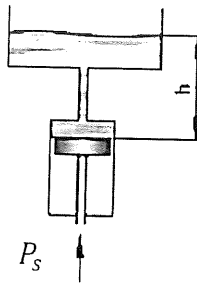

Figure 3
- b) Determine hydrostatic pressure, P_s for the elevated tank as in Figure 3. The height, h of the tank is 12 m, with density, ρ is 1000 kg/m^3 and gravity, g is 10 m/s^2 . State your answer in bar. (5 marks)